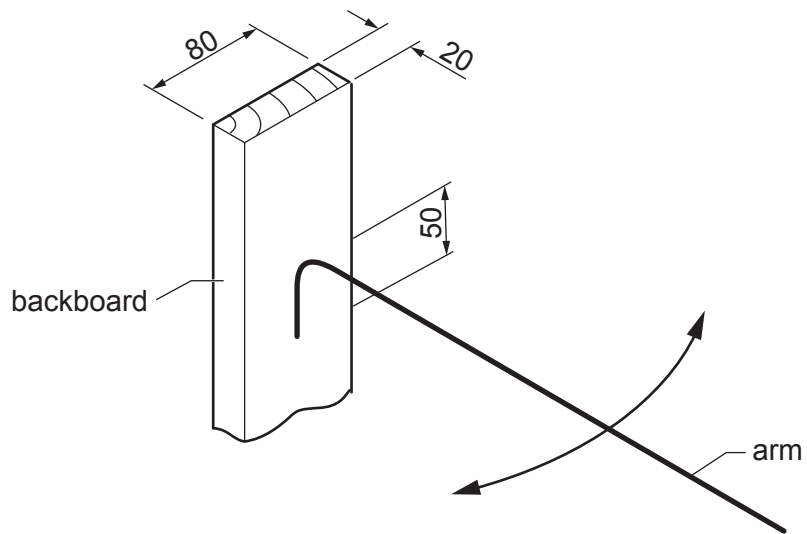

Fig. 10.1
- 10 Fig. 10.1 shows part of an incomplete design for a towel rack. The backboard is made of hardwood and the arm is made from $\text{Ø}8$ aluminium rod.
Use sketches and notes to show how the arm could be attached to the backboard and allowed to 'swing' as shown in Fig. 10.1.